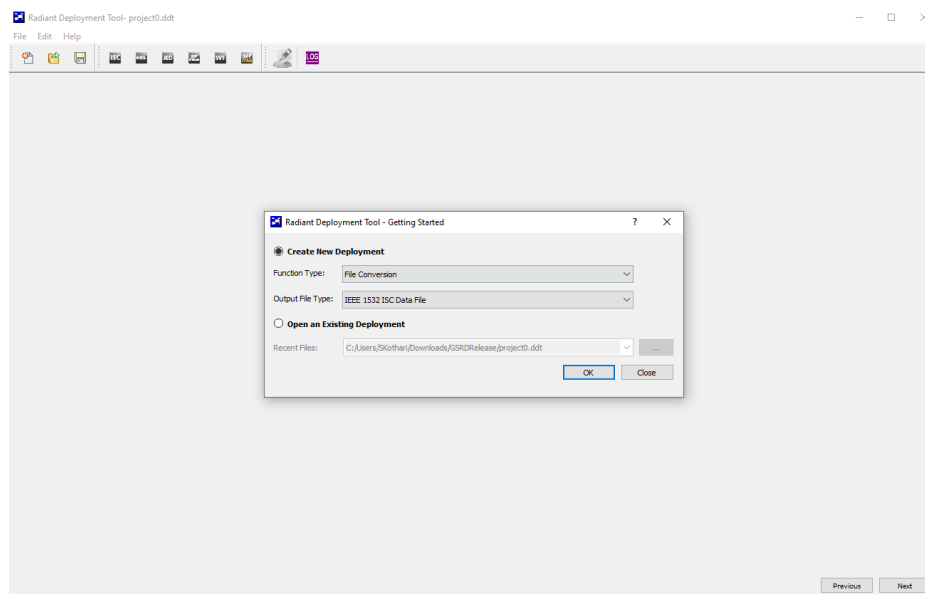

Figure 8.62. Deployment Tool Start window
4. This opens the Deployment Tool window as shown in Figure 8.62.